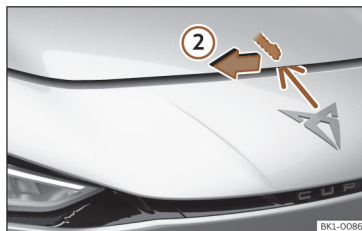

Fig. 184 Lever under the bonnet.
- To lift the bonnet, press towards the left on the lever located under the bonnet, in the centre >>> **Fig. 184** (2). The fastening hooks are unlocked.